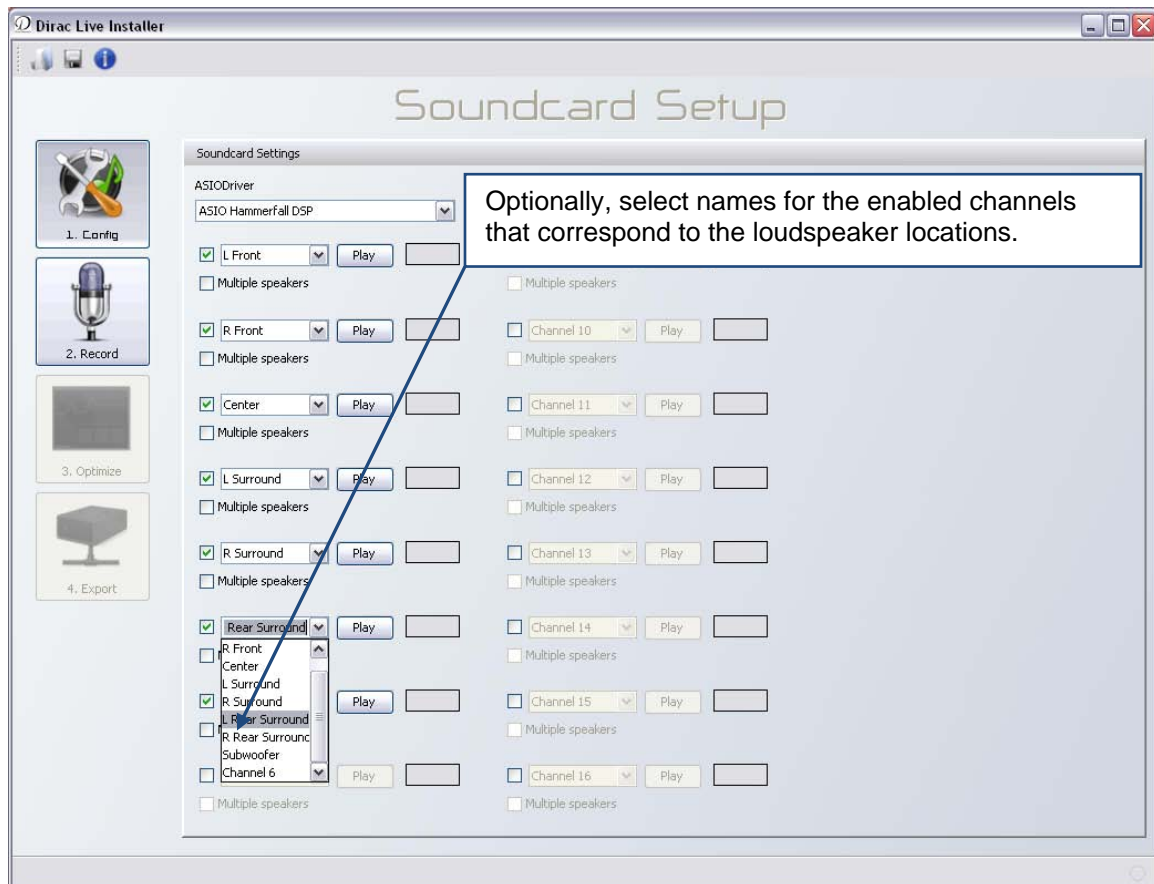

Figure 8. Soundcard Setup Screen
4. (Recommended) Select a name from the pulldown for each of the enabled channels, to assist in identifying the loudspeaker locations. See Figure 8.